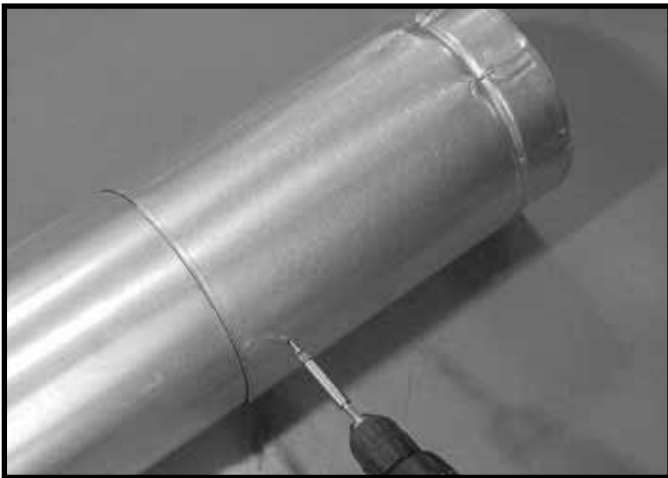

Figure 7.4 Screws into Slip Section
- Secure the pipe and slip section with two screws no longer than 1/2 in. (13 mm), using the pilot holes in the slip section. See Figure 7.4.